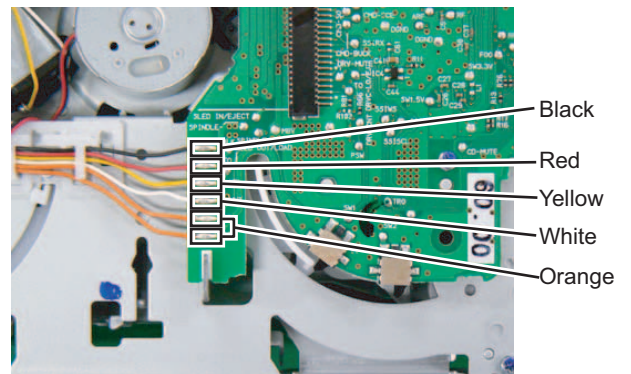

Fig.2
(2) Remove the 6 wires from the CD MECHA PWB ASSY. (See Fig.2)